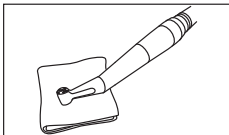

Fig. 8
- ③ Wipe the exterior of the handpiece clean using a cloth moistened with disinfectant or ethanol with a concentration of 60-90%. (Fig. 8)